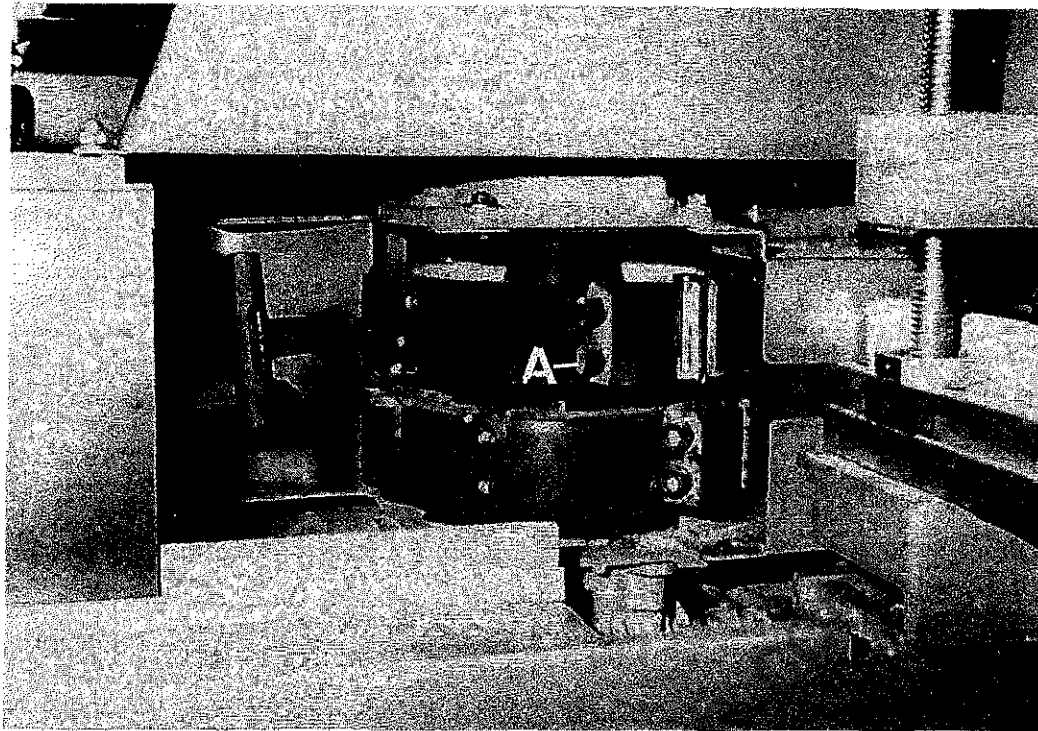

FIG.21
The scribing cutters are fitted to easily removed cartridges which are held in the main tenon blocks by screws 'A', FIG.21.
- a) Traverse head unit to cut-out in guard as shown in FIG.21.
- d) Loosen cartridge locking screws 'A', FIG.21.